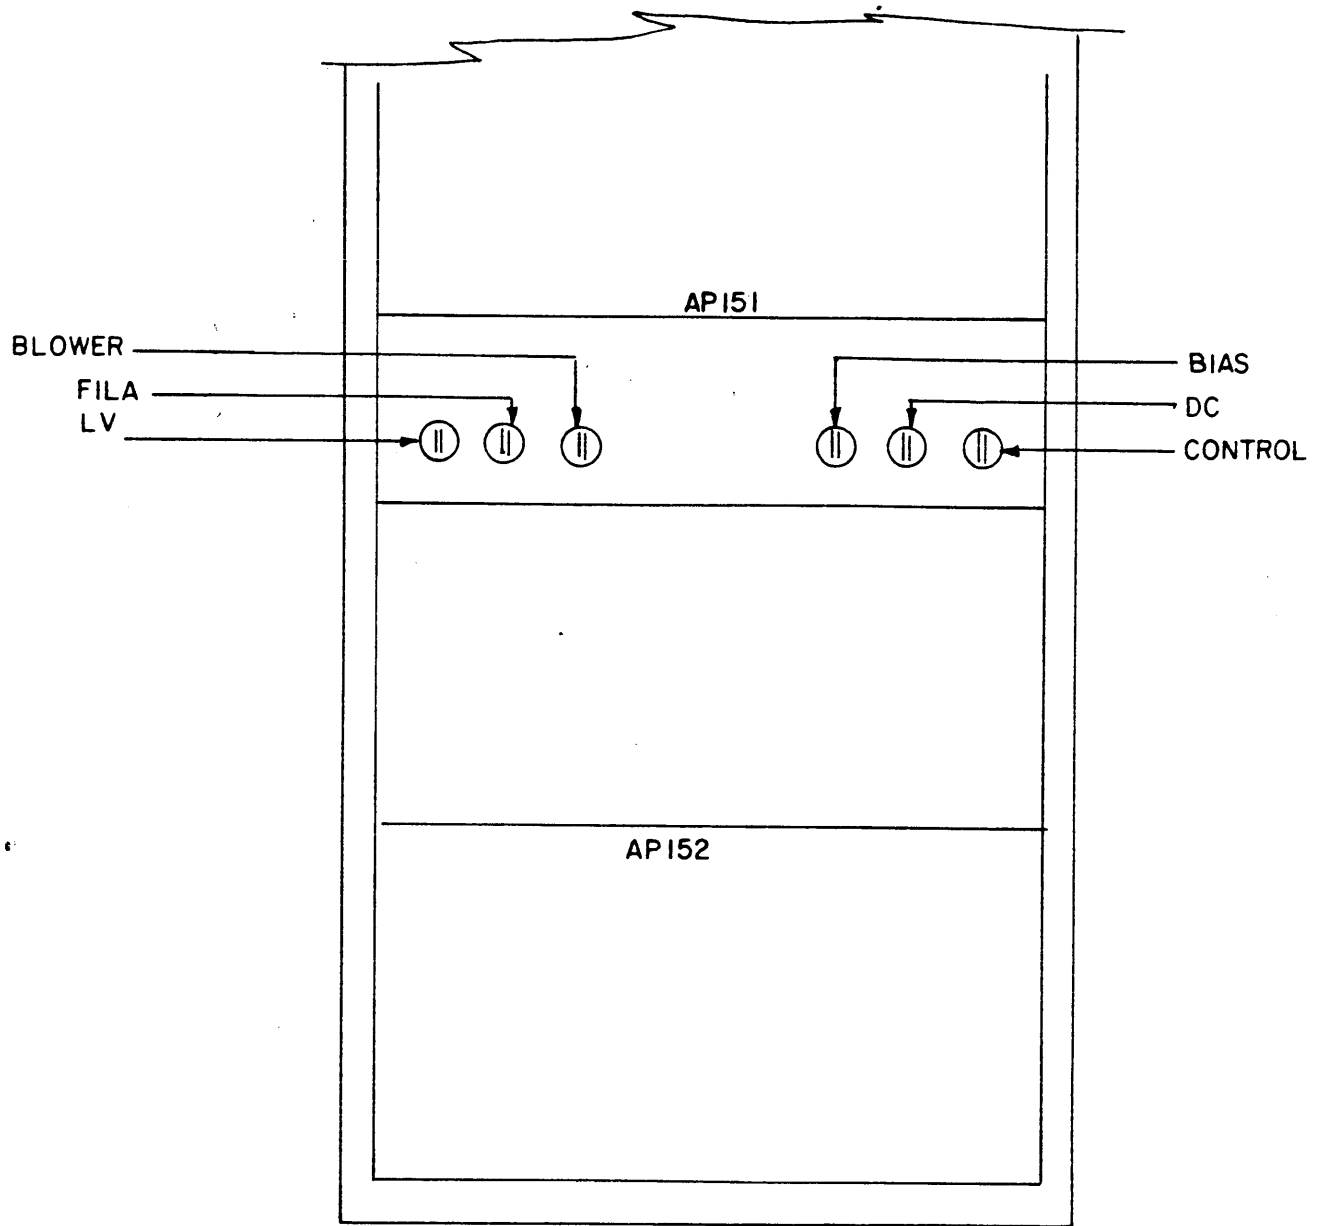

Figure 5-1
2. Fuse Location Drawing (Figure 5-1)